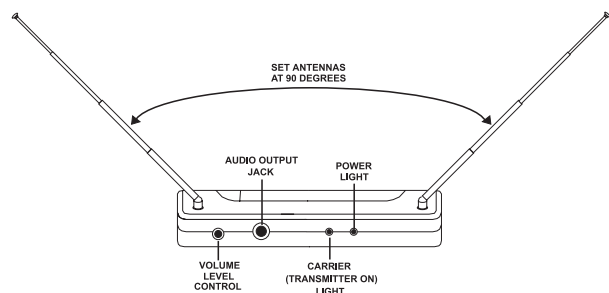

Figure 1
1. Place the receiver where there is a clear line of sight to the area where the transmitter will be used. Extend the receiver's antennas to full length and separate them 90 degrees (see Figure 1).
5. Turn the output level control (see Figure 1) on the front panel to the 12:00 o'clock position (midway in the control's range).